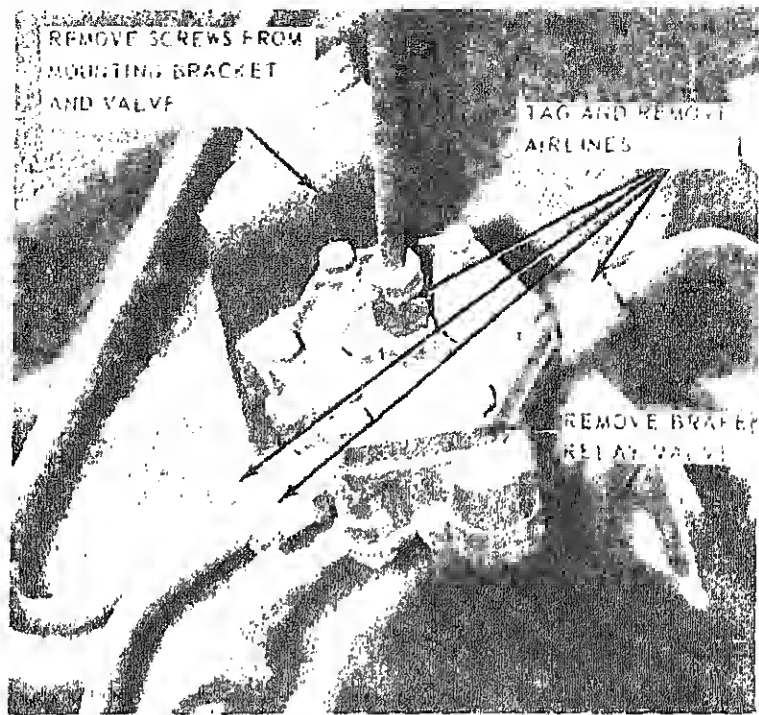

Figure 4-40. Brake relay air valve, removal and installation.
a. *Removal.* Remove brake relay air valve as illustrated in figure 4-40.
(1) Clean with a cloth and dry thoroughly.
(2) Inspect parts for cracks, breaks, or damage. Replace defective parts as necessary.
c. *Installation.* Install brake relay air valve as illustrated in figure 4-40.